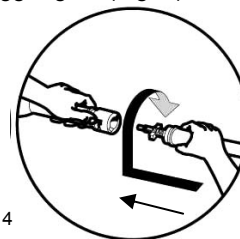

Fig. 4
3. Once the high pressure hose is connected to the unit, you can attach the lance to the end of the trigger gun. (Fig. 4)